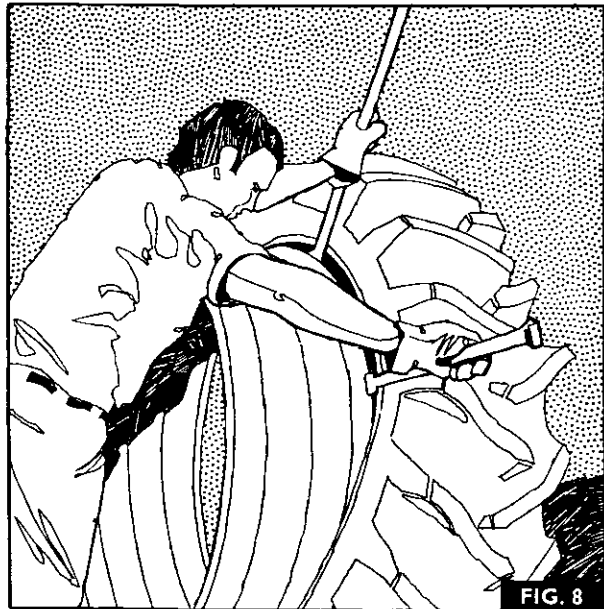

FIG. 8
2. Figs. 8 & 9. With the wheel in a vertical position pry off the tyre taking small bites with the tyre levers. The use of rubber lubricant will help removal.